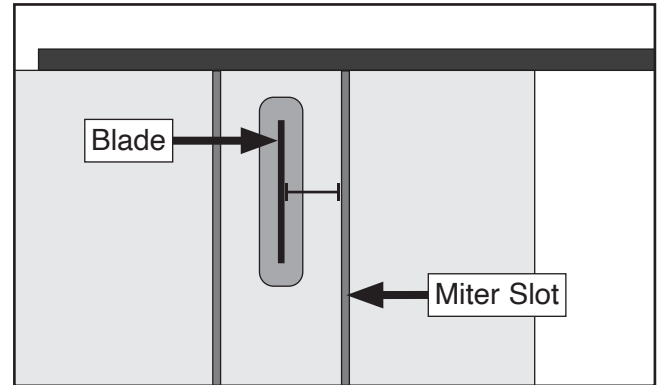

Figure 5. Distance between inner edge of right miter slot and blade.
5. Measure distance between inner edge of right miter slot and blade on your table saw (see **Figure 5**).